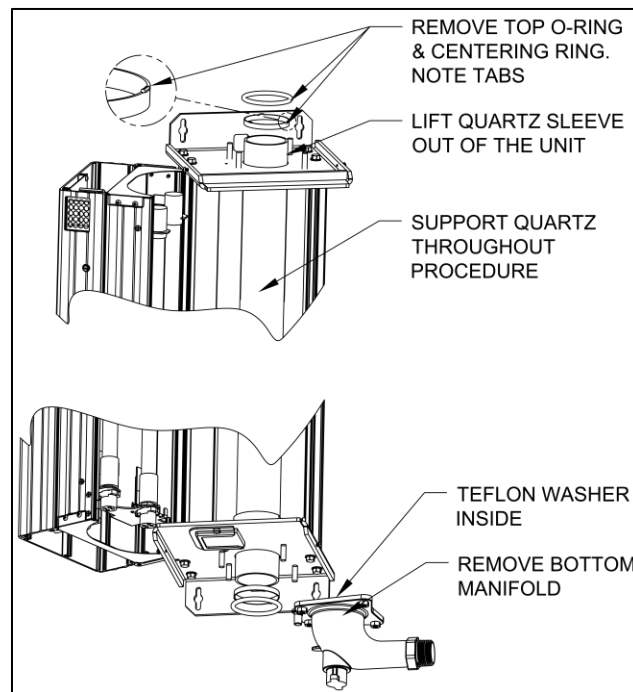

**Figure 7-6**
12. Press down on the wiper shaft and remove the top manifold (Figure 7.6) by lifting it straight up to disengage the wiper shaft. The shaft adapter should remain on the top of the wiper shaft. Note the orientation of the slot to the wiper blades – the slot is aligned to the wiper blades.